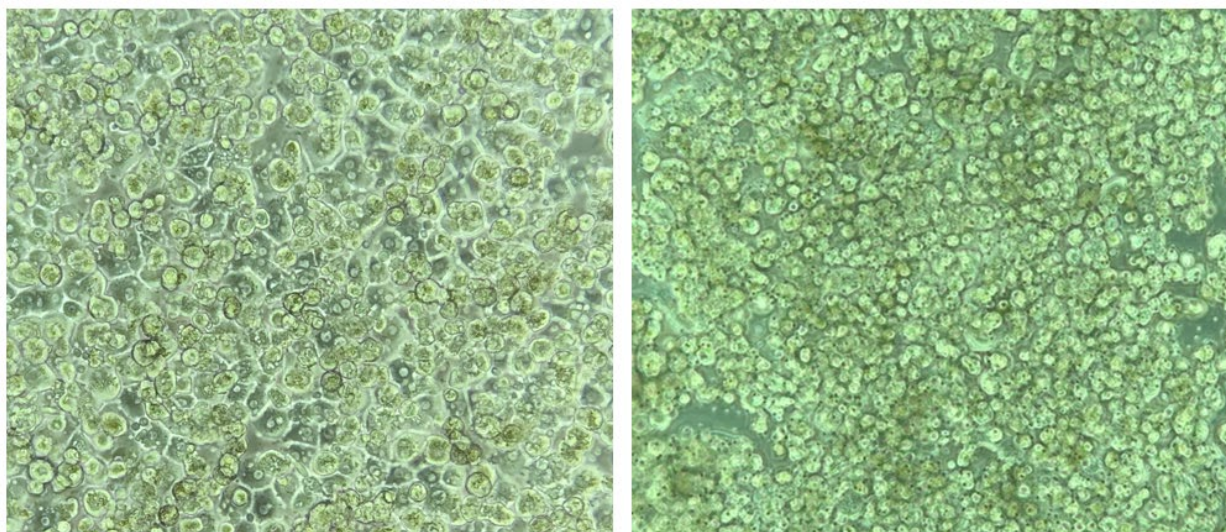

Figure 14. Example of appropriate (left) and poor (right) cell attachment (Hepatocytes, Liver Quad-Culture)
14. Incubate Chip-Arrays in the AVA at 37°C for 4 hours. See Figure 14. for examples of attachment.